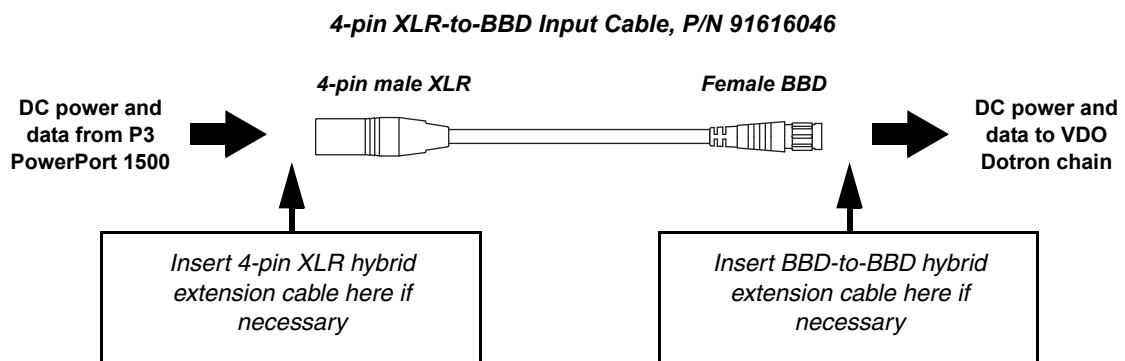

Figure 7: Power and P3 video data input
5. Connect each chain of VDO Dotron dots to one of the four 4-pin female XLR hybrid (48 VDC power + P3 data) outputs on a P3 PowerPort 1500 using a Martin® hybrid 4-pin male XLR to BBD adapter cable, P/N 91616046 (see Figure 7). Alternatively, connect each chain of VDO Dotron dots to one of the 4 outputs on a P3 PowerPort 1000 IP.